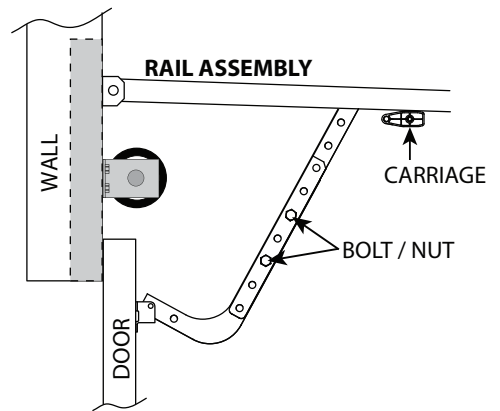

FIG. 6
8. Remove the 4-7/16" self tapping bolts from the Rail/Motor mounting straps and pull Rail from Motor Head. **FIG. 6.** Set Rail Assembly aside.